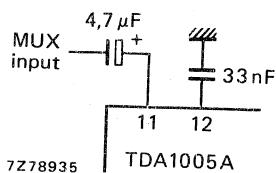
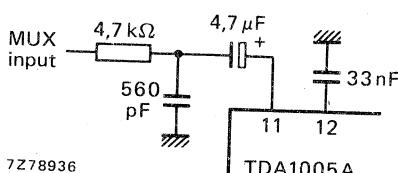

Fig. 13 Without filtering.
Fig. 15 With RC-filter for achieving
1. For other input structures see Figs 13 to 21, shown here is with RC-filter (Fig. 15).
side, showing component layout of Fig. 13.
side, showing component layout of Fig. 15.